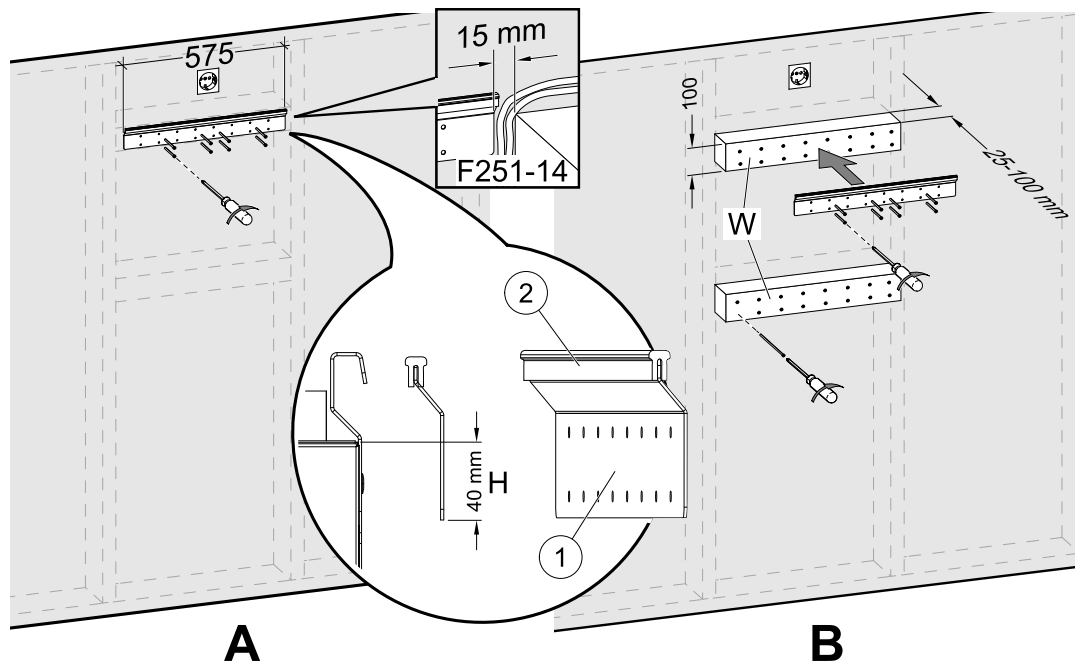

Fig. 5 Installation of mounting bracket without or with wooden blocks
2. Screw the mounting bracket (pos. 1) with the anti-vibration pad (pos. 2) to the wall (figure 5, pos. A). **Screws are not included**, choose them based on your wall type. Use appropriate holes to screw the bracket firmly to the wall. Bottom side of bracket should be 40 mm (H) below top of unit position.
In case the depth of cabinets is much greater than the unit, install wooden blocks (pos. W) to compensate the missing distance (figure 5, pos. B). Then install the mounting bracket on the upper block. Choose thickness of blocks according to your needs.